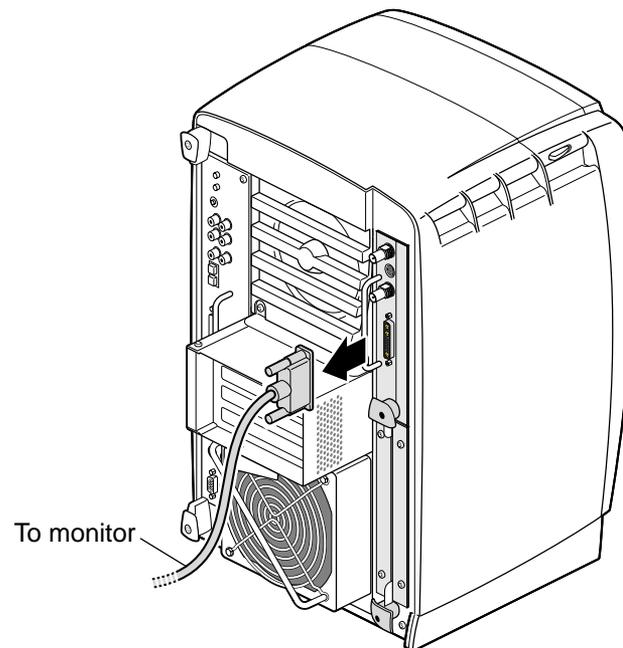

Figure 1-4 Removing the Monitor Cable
1. Remove all the cables from the XIO Tri-Module (only the monitor cable on the VPro Graphics Board is shown in Figure 1-4).